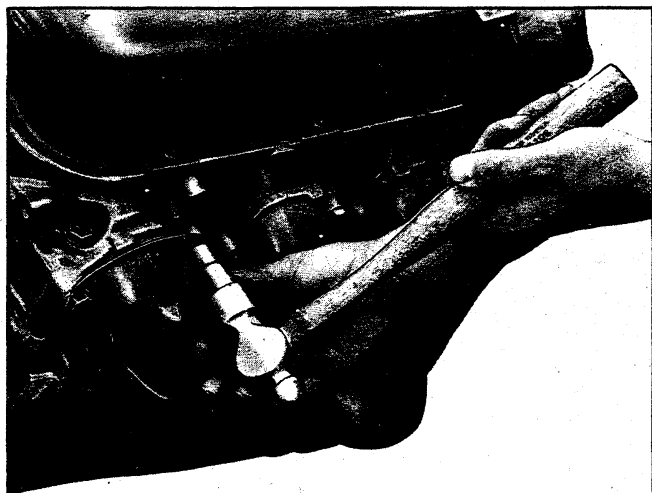

Fig. 3V - Exhaust Manifold French Locks
5. Bend french lock tabs (fig. 3V), remove end bolts then remove center bolts and remove manifold from engine.